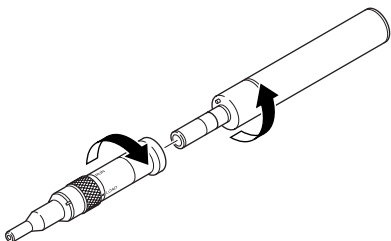

Figure 1. Attachment Installation
1. Install the attachment onto the handpiece with a twisting motion until it securely snaps into place. See figure 1.